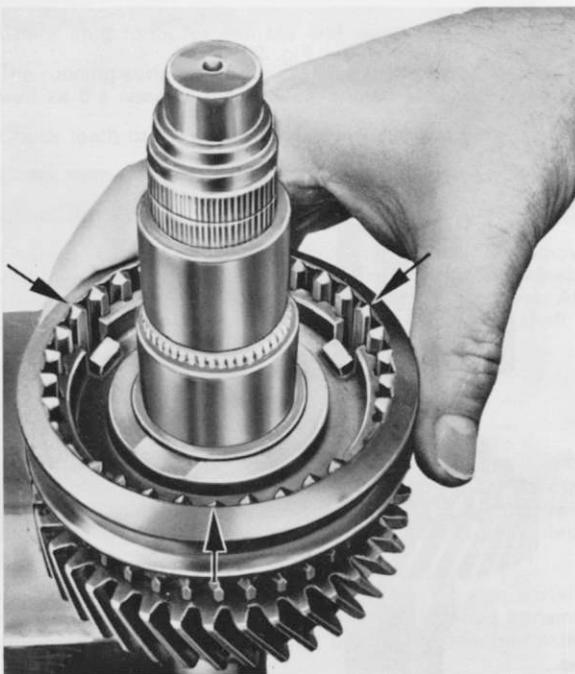

Fig. 29
- Push the sliding sleeve (406) onto the splining of the synchrobody as shown in Fig. 29 (This sliding sleeve is the same on both sides). The 3 flat teeth lie on the pressure pieces. Engage pressure pieces in the notches of the teeth.
14. Slide the sliding sleeve (420) onto the synchrobody (see Fig. 29) such that the 3 flat teeth come to rest on the pressure pieces. The narrower collar and the small rounded off teeth must lie against reverse gear. Engage pressure pieces in the notches of the teeth.
10. Push the sliding sleeve (426) onto the splining of the synchrobody (see Fig. 29). The 3 flat teeth come to rest on the pressure pieces. Engage pressure pieces in notches.